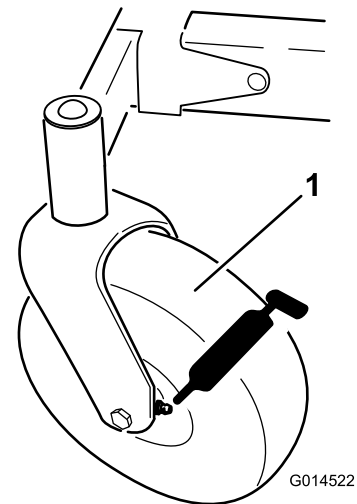
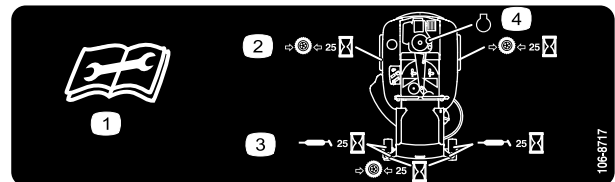

Figure 35
Figure 36
3. Clean the grease fittings (Figure 35 and Figure 36) with a rag.
4. Connect a grease gun to each fitting (Figure 35 and Figure 36).